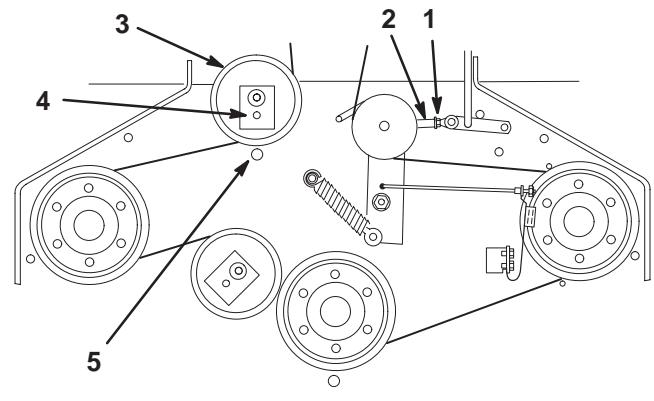

Figure 53
3. Loosen locknut on turnbuckle (Fig. 53).
4. Rotate turnbuckle toward rear of mower to increase tension on belt. Rotate turnbuckle toward front of mower to decrease tension on belt (Fig. 53).
5. If the belt is still loose after making adjustments to the turnbuckle, reposition the rear idler pulley to the front hole. The belt guide next to the pulley must also be moved to the front hole (Fig. 53).